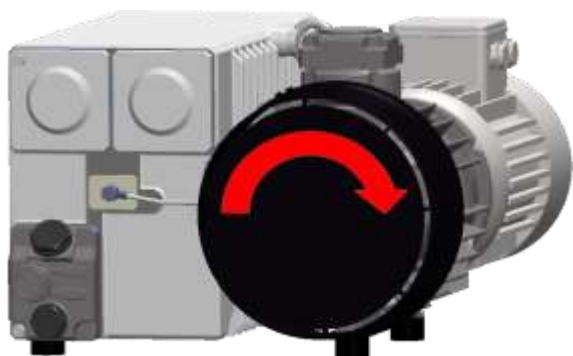

Figure 10: Rotation direction motor vacuum pump
- Check the correct direction of rotation of the pump (Figure 10:). Operating the machine with an improper rotation direction will cause damage to the pump and a bad vacuum level. After you connect the machine to another 3- phase power supply, rotation direction should be checked again. If the direction is incorrect, 2 phases must be swapped in the plug. Only electricians may work on the electrical system